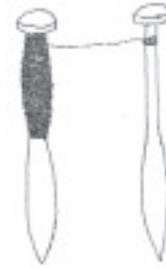

Fig 5b
- 44. The pins should be made from hardened steel so they won't bend the first time you knock them into the wall, *fig 5b*.